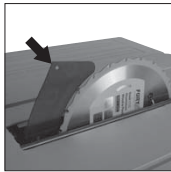

Fig. 19
- Raise the blade to its full height to fully reveal the riving knife. (Fig. 19)